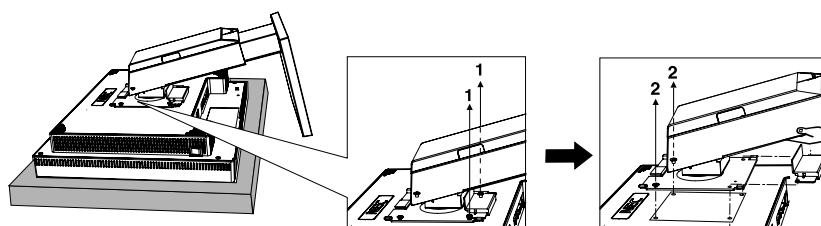

Figure S.4
4. Unscrew the pair of "1" and "2" screws sequentially (**Figure S.4**).